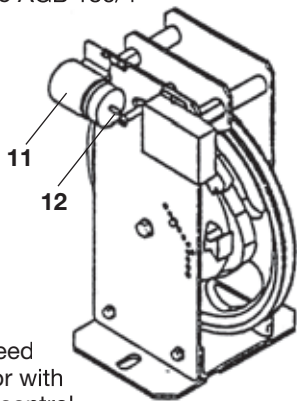

Fig. 2
By means of a key, the remote control (fig. 2, pos. 11) causes the insertion of the pendulum on the electromagnetic way in the safety switch box.